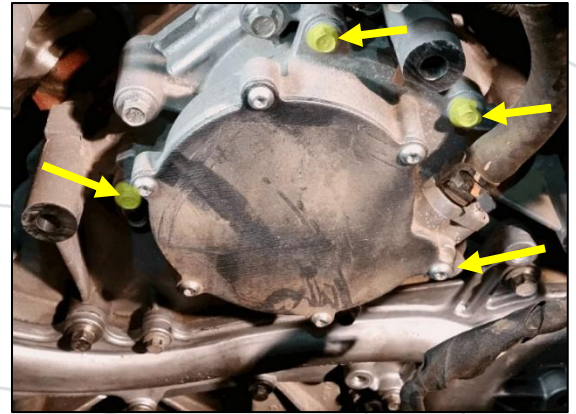

Figure 18: Vacuum Pump Bolt Locations
29. Disconnect the vacuum line & remove the four 8mm bolts securing the vacuum pump (Figure 18).
- Torque to **89 lb-in** (Figure 18).